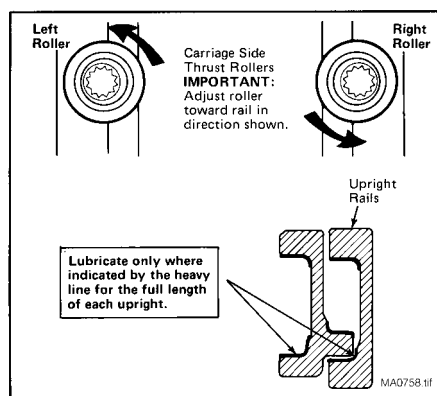

Figure 28. Rail Lubrication and Carriage Side Thrust Rollers
* Lubricate the inner upright rails with chassis lube or Kendall SR-12X. See figure 28.
* Adjust the carriage side thrust rollers for unrestricted clearance along the travel of the carriage. The rollers have eccentric mount bases. Turn the rollers toward the upright rail to decrease clearance. See figure 28. Tighten the capscrews to a torque of 63070 ft. lbs. (85-95 Nm).